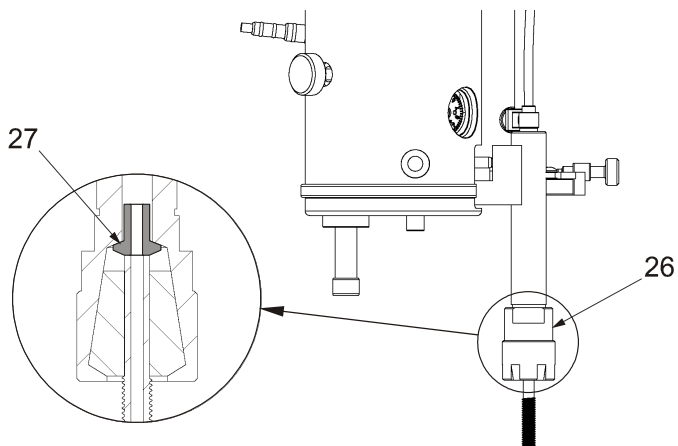

Figure 9. Using Collet Chuck
Creation of threads in deep locations using a short electrode can be effectuated using a collet chuck (26). A dedicated collet chuck (26), with a rubber adapter (27) that allows dielectric fluid flowing through it to the electrode, may be purchased. See Figure 9.